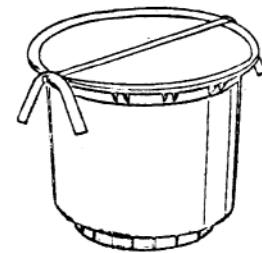

Fig. 2
2. Locate Centre Shaft assembly in bearing grooves of one drum half as shown in Fig. 2.